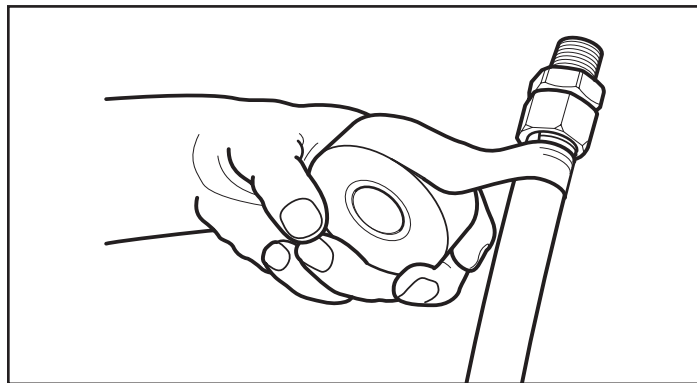

Figure: 4-17 Wrapping with self bonding silicone tape - begin on jacket.
1. When installed outdoors, the plastic jacketing shall remain intact as much as practical for the given installation. Any portions of exposed stainless steel shall be wrapped with self-bonding silicone tape, sealing the fitting connection to prevent later corrosive attack by acid wash or chloride-based compounds. (See Figures 4-17 and 4-18).
2. When **TracPipe** and **TracPipeCounterStrike** CSST is installed in a swimming pool mechanical room or exposed to a pool, exposed portions of the stainless-steel tubing shall be wrapped with self-bonding silicone tape. (See Figures 4-17 and 4-18).
3. When installed along the side of a structure (between the ground and a height of 6 feet) in an exposed condition, the **TracPipe** and **TracPipeCounterStrike** CSST shall be installed in a location that will not subject the piping to mechanical damage or be protected inside a conduit or protective cover. (See Figures 4-17 and 4-18).